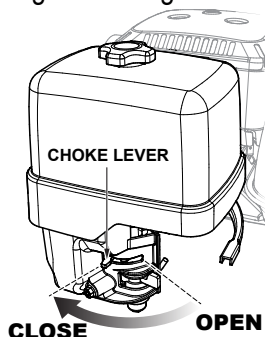

Figure 12. Engine Choke Lever (Closed)
3. Place the choke lever (See Figure 12) in the **CLOSED** position if starting a cold engine.